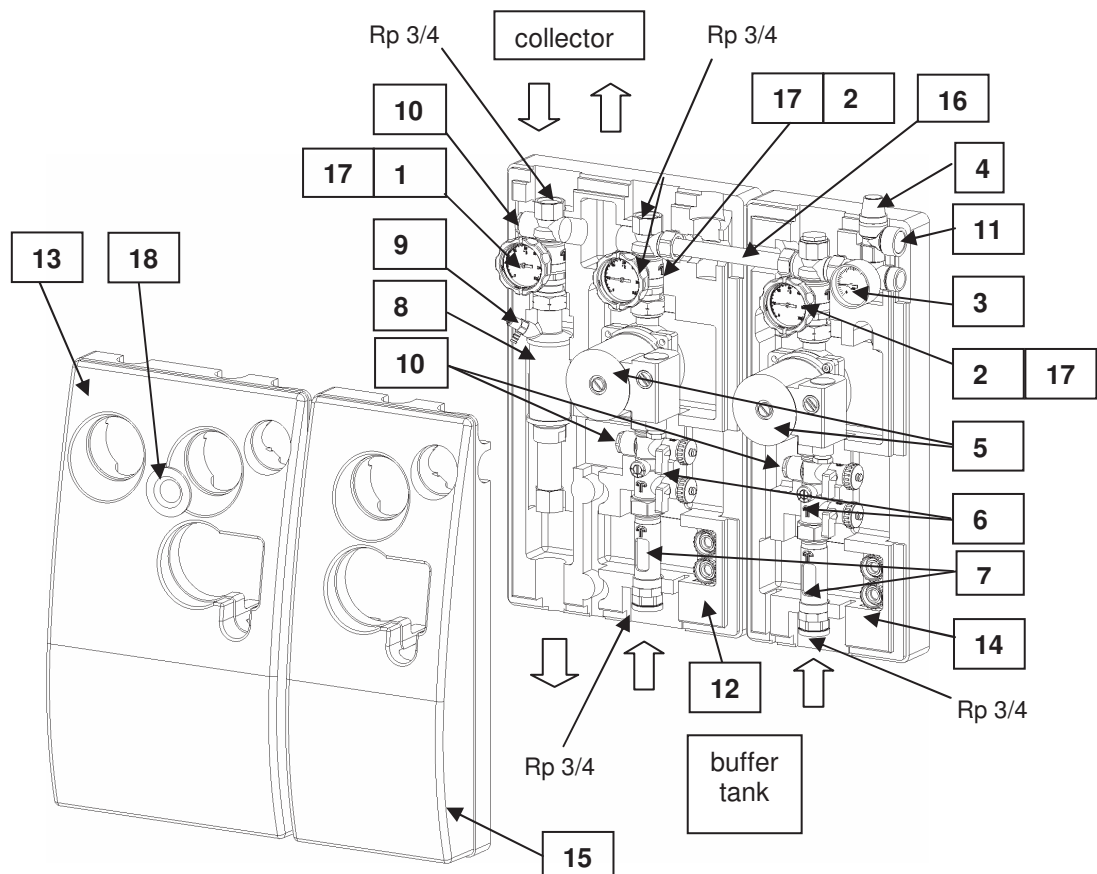

Fig. 2: Components
In case of maintenance (e.g. change of pump) all ball valves have to be closed (Fig.2, pos.1 and 2)